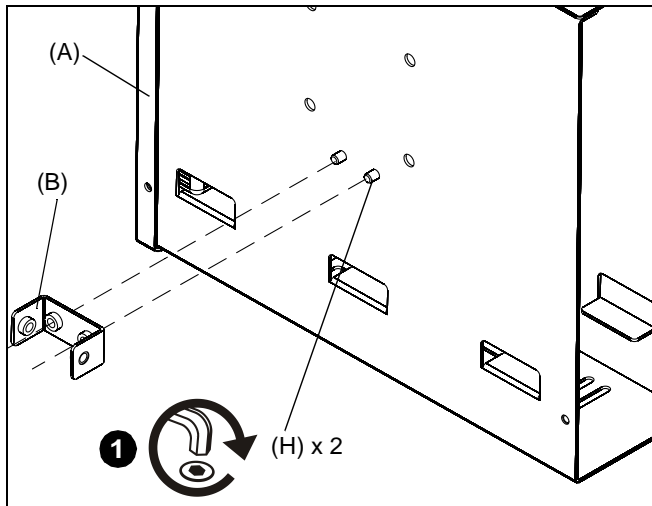

Figure 4
1. Attach bracket (B) to CMA-170 using two 1/4-20 x 7/8" button head cap screws (H) from INSIDE CMA-170. (See Figure 4)